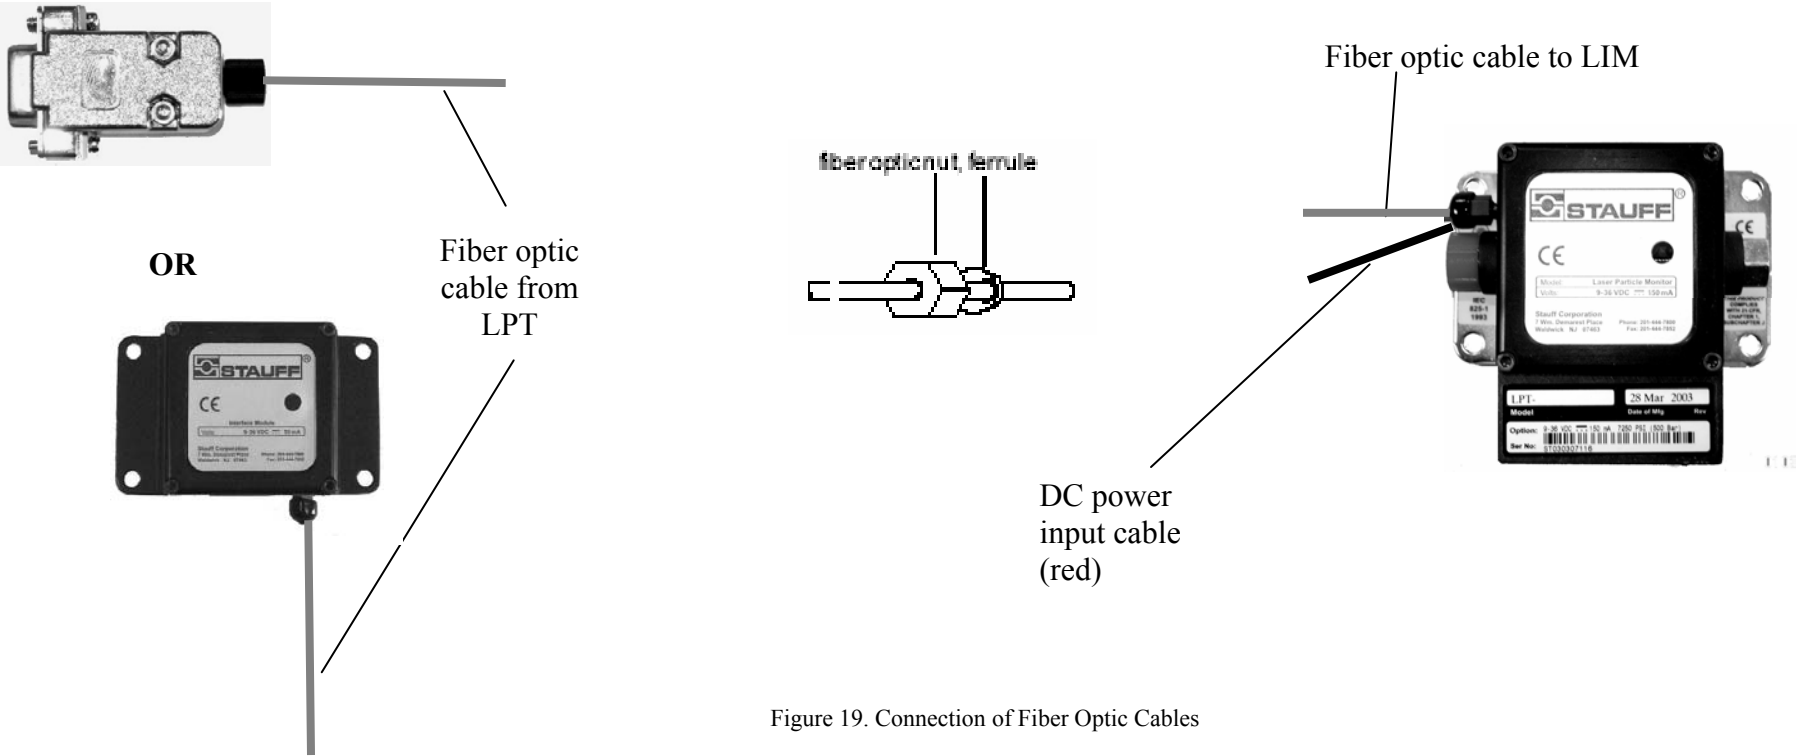

Figure 19. Connection of Fiber Optic Cables
- 8) Connect the LPT transducer to the LIM interface module using the supplied fiber optic cable per instructions on page 38. (Ref: figure 19, page 38)